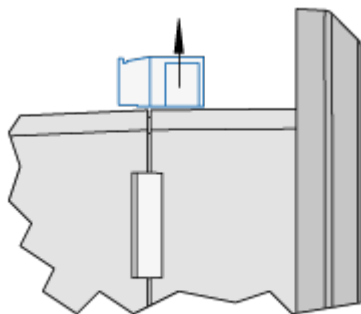

Fig. 12: Remove terminals
- 1.** ▷ Cut out the panel according to the dimensions in ↳ Fig. 12.